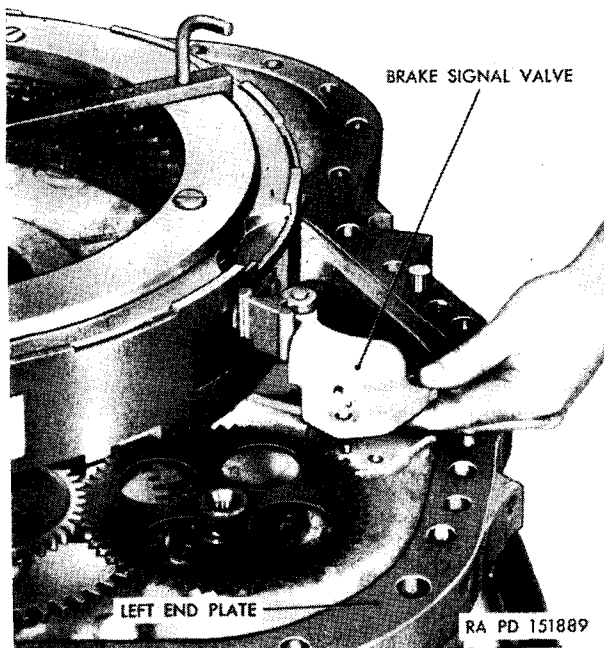

Figure 150. Removing or installing brake signal valve.
a. Lay the end plate assembly, brake side up, on the assembly table. Install retainer (C7083772) to prevent spilling the 229 ball bearings located between these two parts. Using a $\frac{1}{2}$ -inch wrench, remove three bolts from the brake-signal valve and remove it from the end plate (fig. 150).